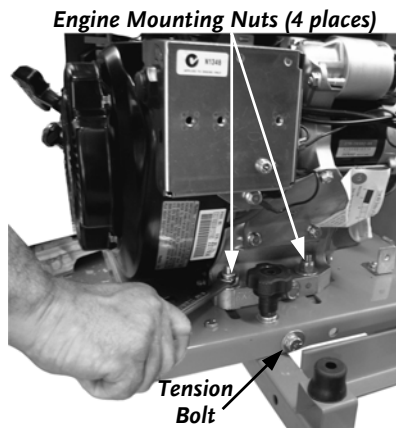
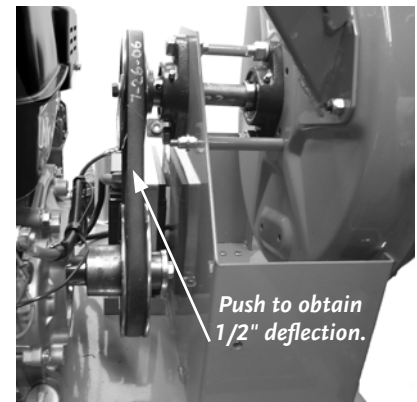

Figure 50
Figure 51
3. Using a 9/16" Wrench, loosen the four (4) Engine Mounting Nuts (**Figure 50**). There are two (2) Nuts on each side of the Engine.
4. Using a 9/16" Wrench, loosen the Drive Belt Tension Bolt (**Figure 50**) just enough so you can slip the Drive Belt off the pulleys (**Figure 51**).
5. Replace the Drive Belt and tighten the Drive Belt Tension Bolt just enough so you can deflect the Drive Belt 1/2" by pushing down on the Belt between the two pulleys with your finger (**Figure 51**).